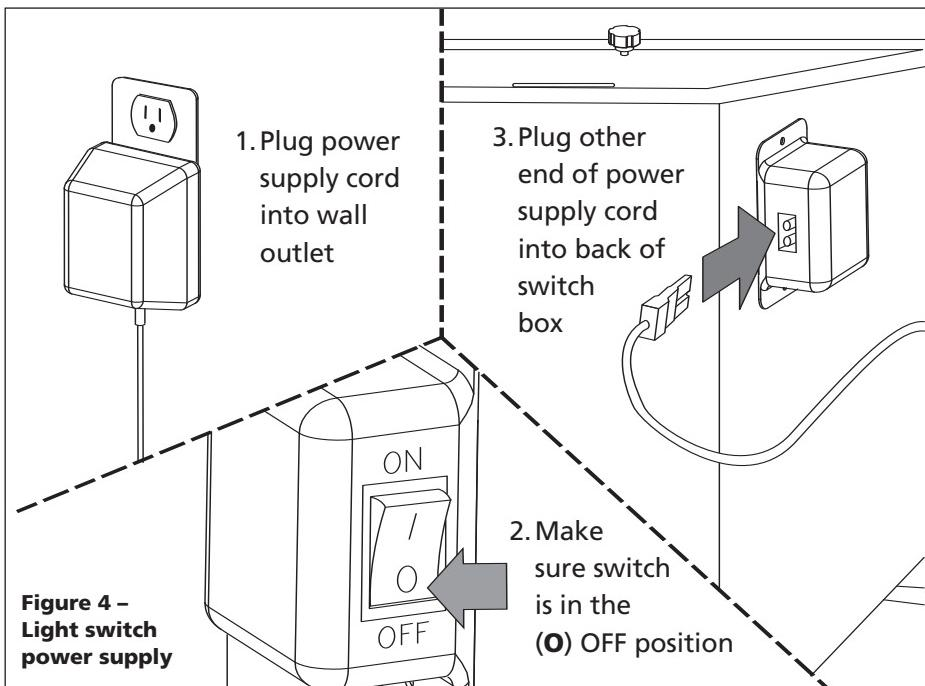

Figure 4 – Light switch power supply
- Plug the 12V power supply into a 110V wall outlet (see Figure 4).
- Making sure the switch is in the (O) OFF position, plug the other end of the 12V power supply cord into the light switch on the cabinet (see Figure 4).